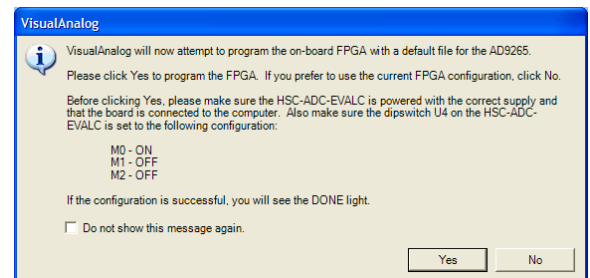

Figure 5. VisualAnalog Default Configuration Message
2. After the template is selected, a message appears asking if the default configuration can be used to program the FPGA (see Figure 5). Click **Yes** and the window closes.